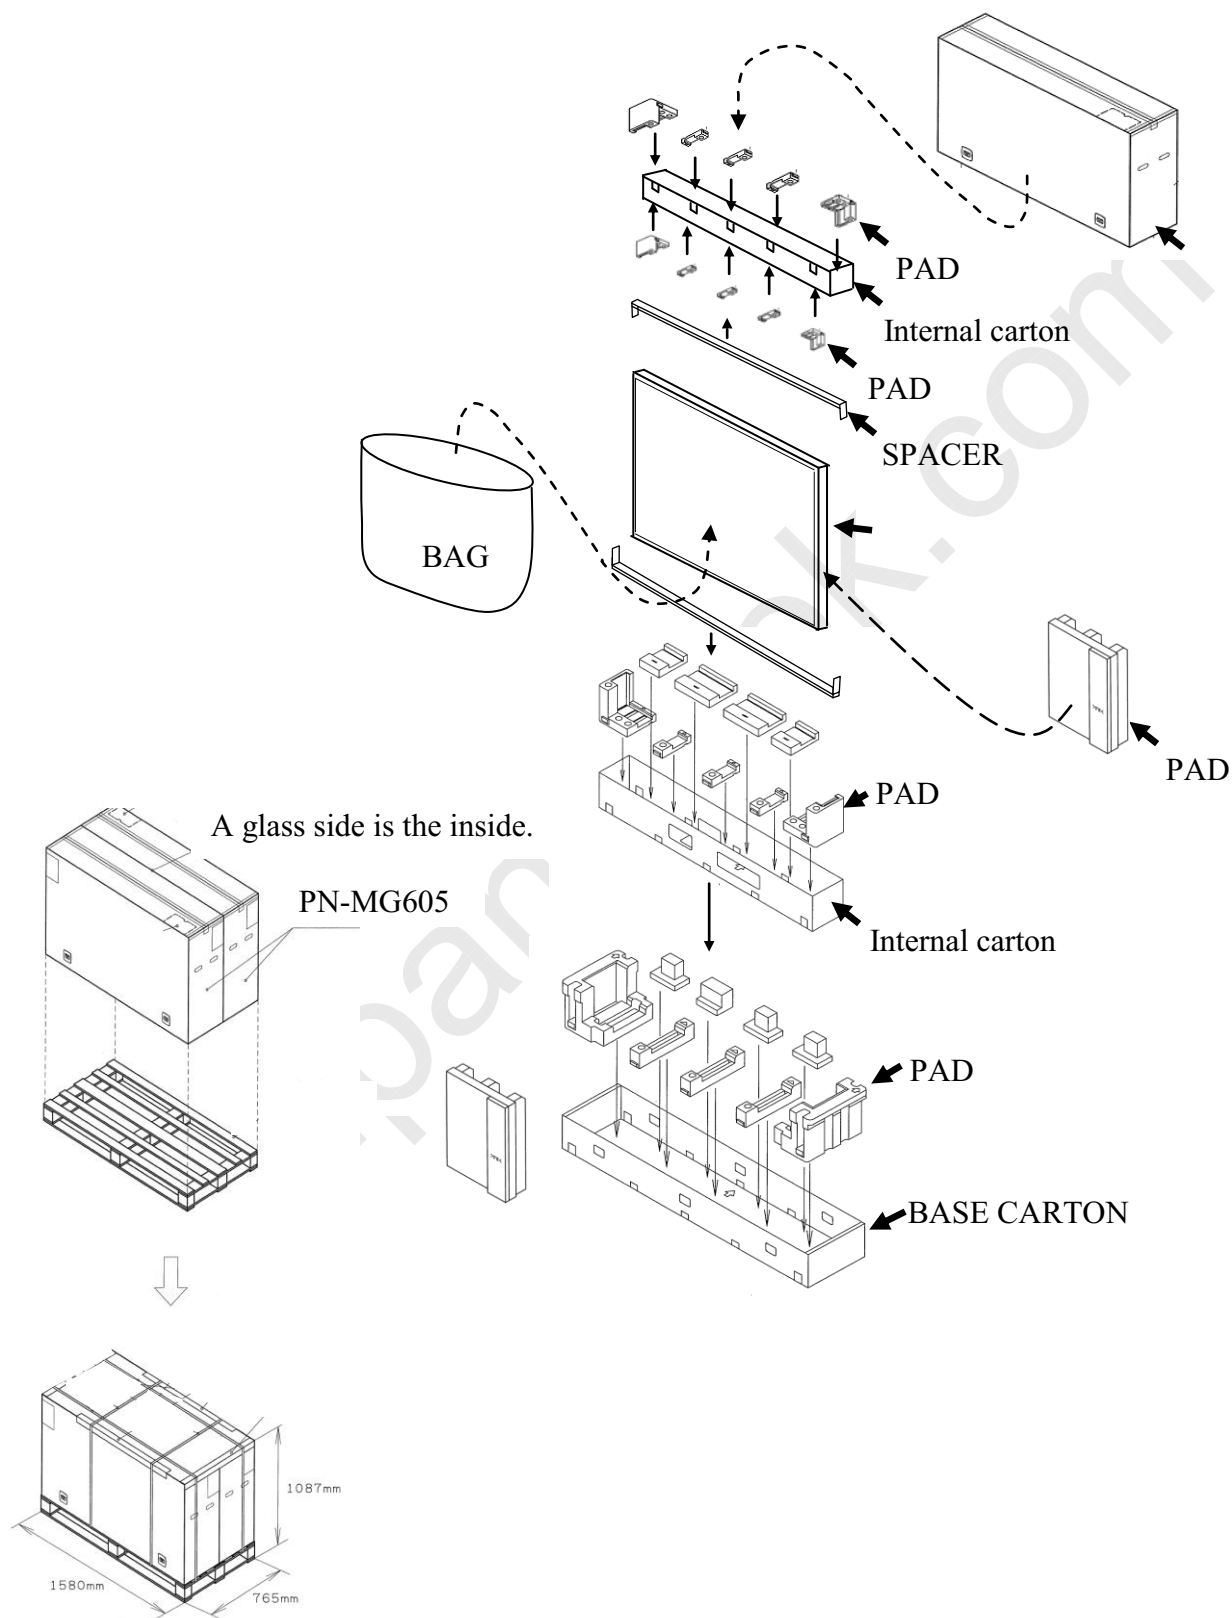

Fig.2 PACKING FORM
e) Packing Form are shown in Fig. 2